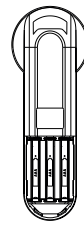

Figure 2
3. Place 3 new batteries of the types R03 or LR03 (AAA) in the transmitter. Direction of how to place the batteries in the transmitter is shown in Figure 2